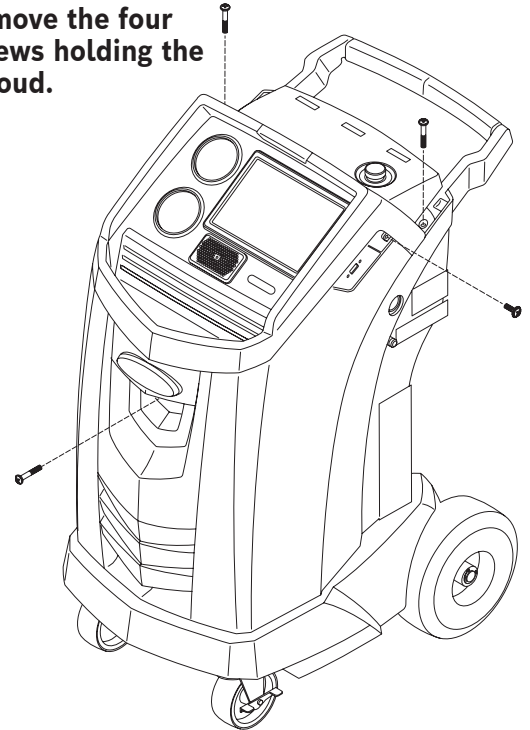

Figure 6
2. The machine clears the existing filter. Turn off the machine. Remove the oil bottle. Remove the four screws holding the shroud. See Figure 6.